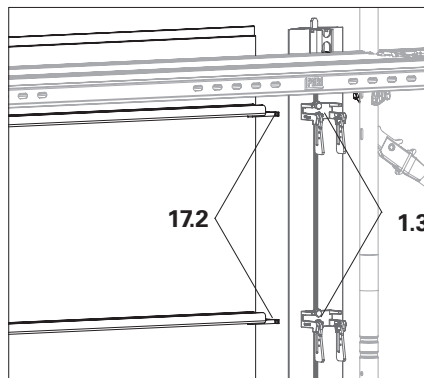
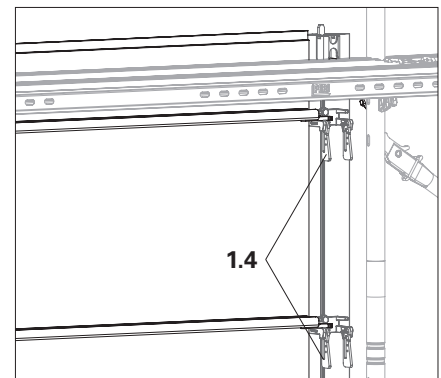

Fig. C1.04
Fig. C1.05
1. Place Panel CPP (**17**) with the 4 lugs (**17.2**) from the inside in a secured position on the handrail receptacle (**1.3**) of the support rails. (Fig. C1.04 + Fig. C1.05)